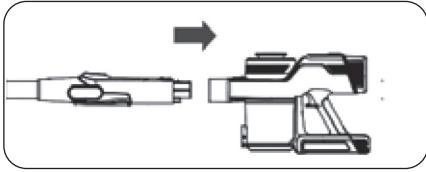

Figure 1
- Push the end of the aluminum tube horizontally into the vacuum hole of the main machine to ensure that it is compact and not loosened, and that the installation is successful after the sound of clacking is heard. (figure 1)